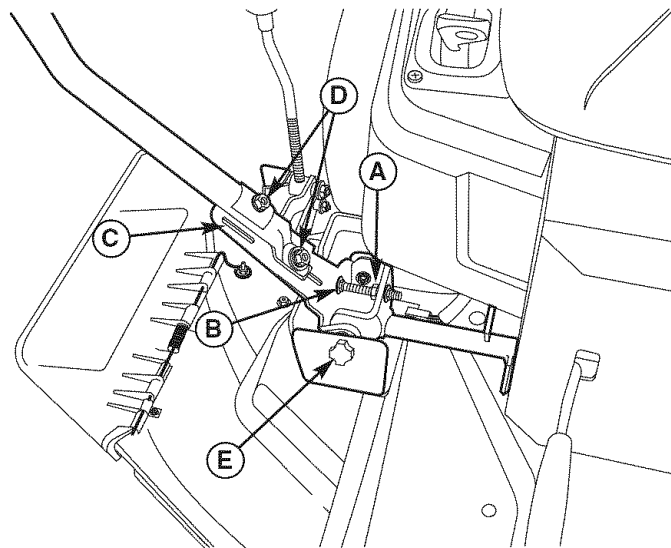

Figure 30. Control Lever Adjustment
To Adjust Control Lever Height: Pull the levers in across the operator's lap to their DRIVE positions. Loosen the mount bolts (D, Figure 30) and raise or lower the levers to the desired position. Tighten the mounting bolts.(D).
To Adjust Control Lever End Gap: The control lever end gap should be adjusted so that the levers do not contact each other when placed in DRIVE positions. Loosen the jam nut (A, Figure 30) and adjust the length of the carriage bolt (B) so that the levers do not contact each other. Repeat on the opposite side. Tighten the jam nut (A) to lock the carriage bolt in position.
To Adjust Operator Clearance: The space between the operator and the control levers can be increase by removing the upper mounting bolt (D, Figure 30), pivoting the lever forward, and reinstalling the capscrew through the control lever and forward slot (C). Repeat with the other ground speed lever.
If the rider veers to the right or left when the ground speed control levers are in the maximum forward position, the top speed of the right lever can be balanced by turning the adjustment knob (E, Figure 30). Turn the knob COUNTERCLOCKWISE to increase speed or CLOCKWISE to decrease speed